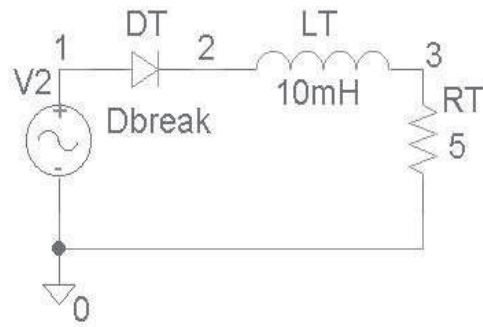

FIGURE 2.14 PSPICE circuit to study the diode R-L circuit.
**PSPICE Modelling:** For modelling the ideal diode using PSPICE, the circuit used is shown in Fig. 2.14. Here the nodes are numbered. The ac source is connected between nodes 1 and 0. The diode is connected between nodes 1 and 2 and the inductor links nodes 2 and 3. The resistor is connected from 3 to the reference node, that is, node 0.